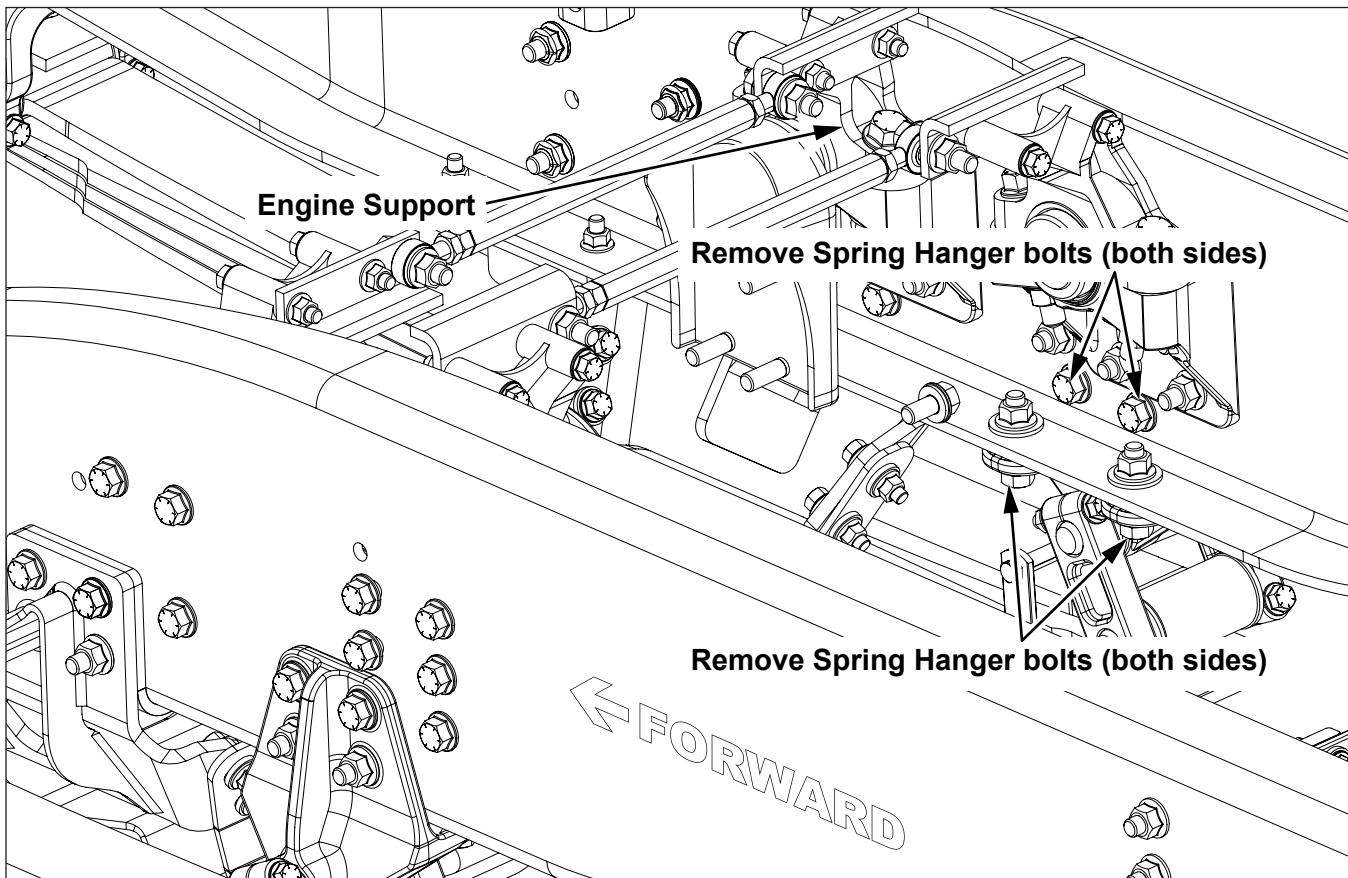

Figure 10
6. Remove 4 spring hanger bolts from frame rail bottom flange and discard. Remove 4 bottom bolts from frame rail web section and discard (both sides) (see Figure 10).